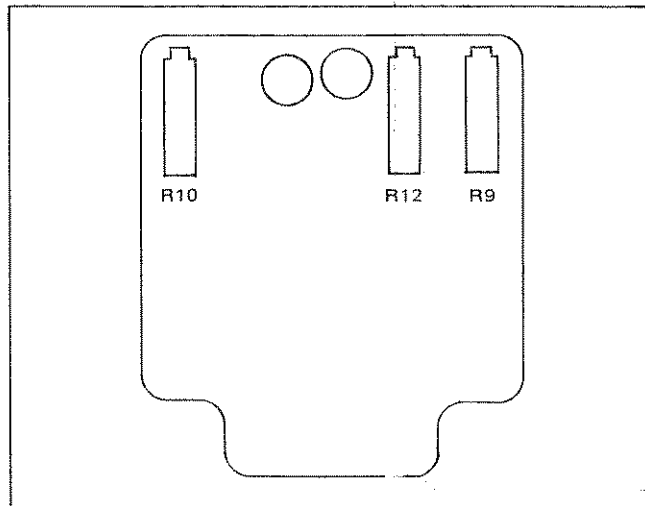

Figure 5.9 - 4-Wire Ratio Adjustment Locations
- Adjust R12 on 4-Wire Ratio board for a readout of  $-10.0000$  (figure 5.9).